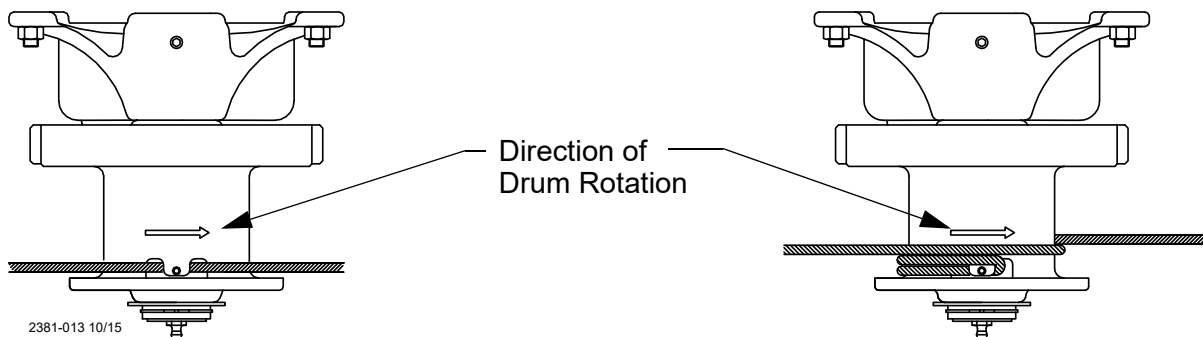

Figure 20. Cable Installation & Wrap
4. Wrap the cable through the winch drum relief located near the bottom of the drum. Tighten the set screw to anchor the cable to the drum. (**See Figure 20.**)
5. Turn the winch drum one full revolution. Guide the cable against the flange at the bottom of the winch drum. The cable must not wrap over itself on the drum, but should be wrapped as close as possible to each previous wrap. (**See Figure 20.**)